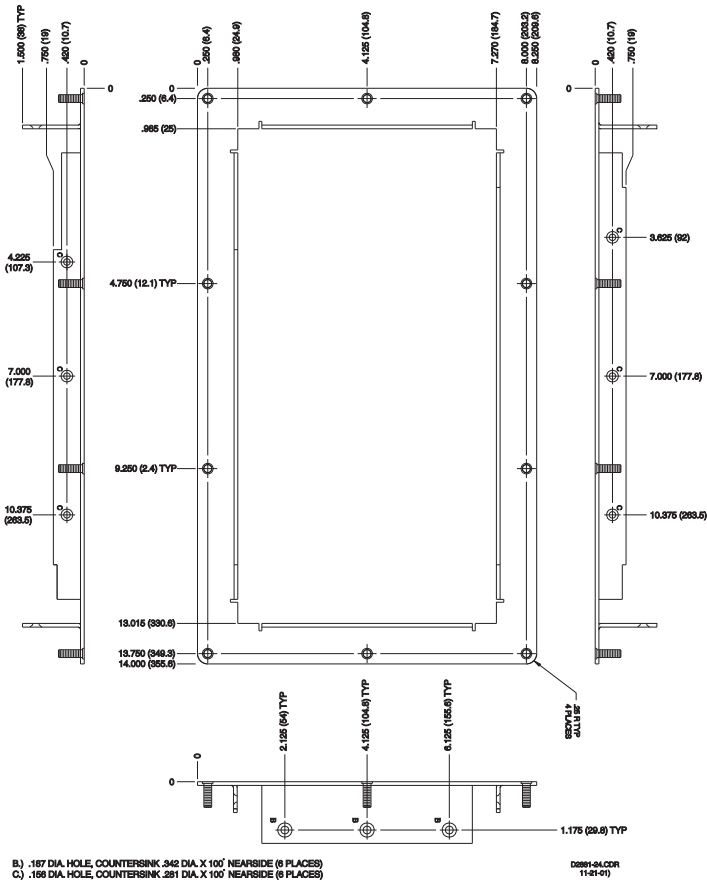

Figure 4 - Front Panel Mounting Bracket, P/N 9360107100
- Front panel mounting bracket, Basler P/N 9360107100. See Figure 4.